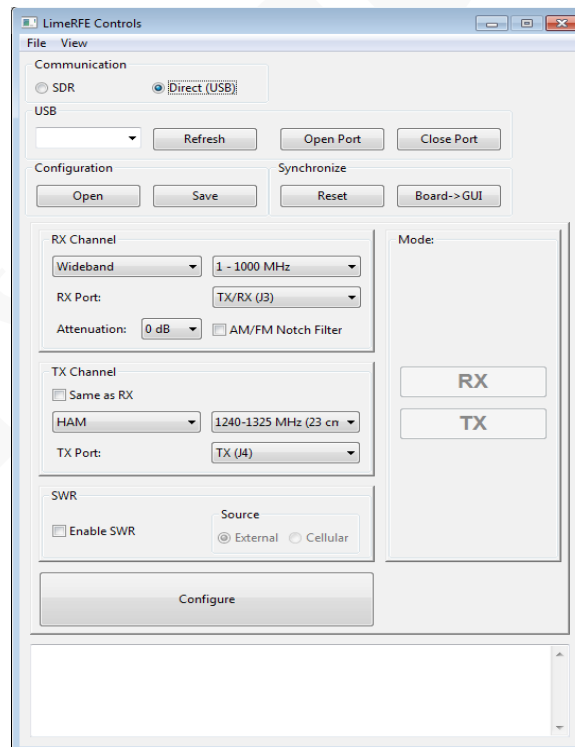

Figure 2: LimeRFE Controls window
- LimeRFE Controls window should appear, Figure 2. This window consists of several panels: Communication, Configuration, Synchronize, RX Channel, TX Channel, Mode, SWR (to display this pannel go to View/Power Meter) and Message Display panel.
- In *RX Channel* panel, in *Type* sub-panel there are three different options (in Fig. 2 an option “Wideband” is shown) .
Depending of selected type, different Channel/Band options will appear (in Fig. 2 an option “1 – 1000 MHz” is shown).
The third sub-panel shows selected input port for receiver mode (in Fig. 2 an option “TX/RX (J3)” is shown). RX signal get out from the board at connector J1.
In the same panel, from *Attenuation* drop menu, attenuation level can be changed for signal in receive mode. Given attenuation values are: 0, 2, 4, 6, 8, 10, 12 and 14 dB (in Fig. 2, 0 dB is selected attenuation level).
In the same panel, AM/FM Notch filter can be enabled or bypassed in check in box. (in Fig. 2 this AM/FM Notch filter has been bypassed, box is not checked).
- In *TX Channel* panel, in *Type* sub-panel there are three different options (in Fig. 2 an option “HAM” is shown) .
Depending of selected type, different Channel/Band options will appear (in Fig. 2 an option “1240 – 1325 MHz” is shown).
The third sub-panel shows selected input port for receiver mode (in Fig. 2 an option “TX (J4)” is shown). TX signal get in into the board at connector J2.